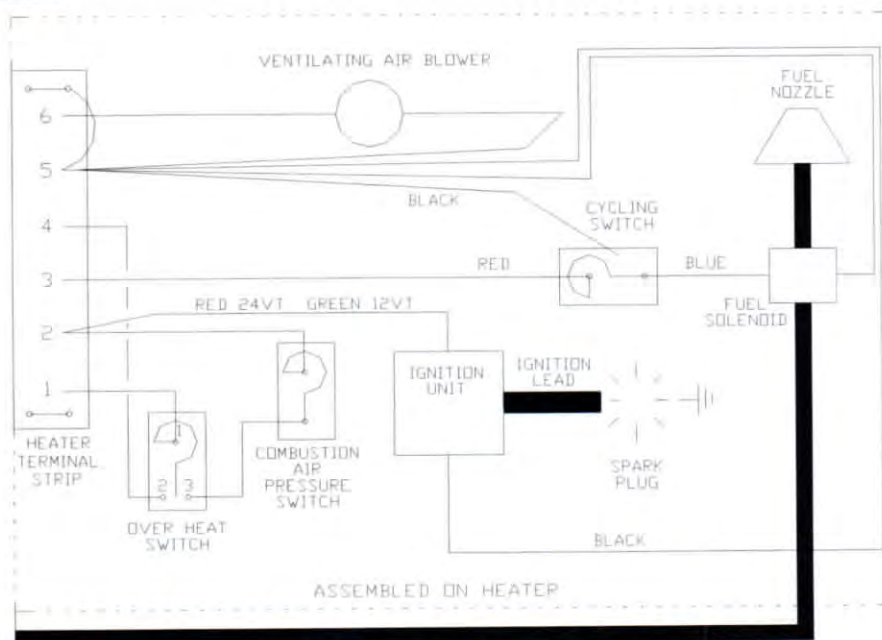

Figure 2: Wiring Schematic
- B. Restore electrical power to the airplane (Ref 24-36-00, 301, ELECTRICAL POWER – CONNECT) and verify wiring connections. See Figure 2.